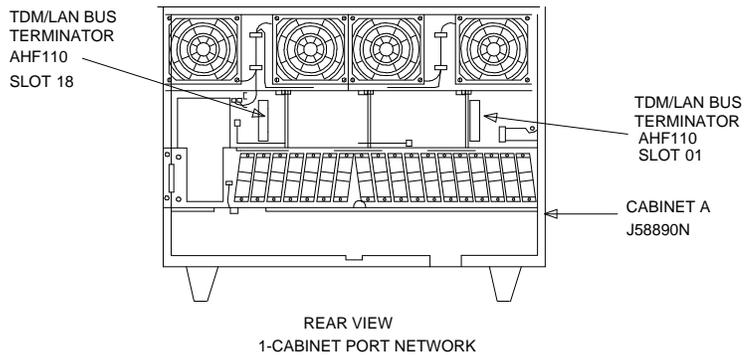

Figure 2-21. Locations of TDM/LAN Bus Terminators for Single-Cabinet EPN
1. If the EPN has only one single-carrier cabinet, verify that the two AHF110 TDM/LAN bus terminators are located per Figure 2-21.